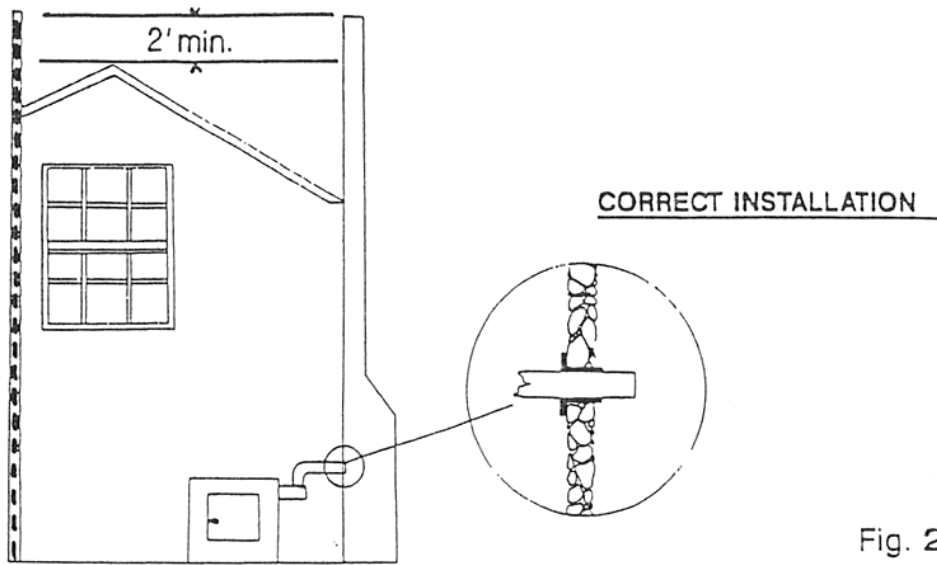

Fig. 2
The top of the chimney should be at least (3) three feet above the highest point where it passes through the roof and at least (2) feet higher than any portion of the roof or an adjacent building within (10) feet of the chimney (figure 2)